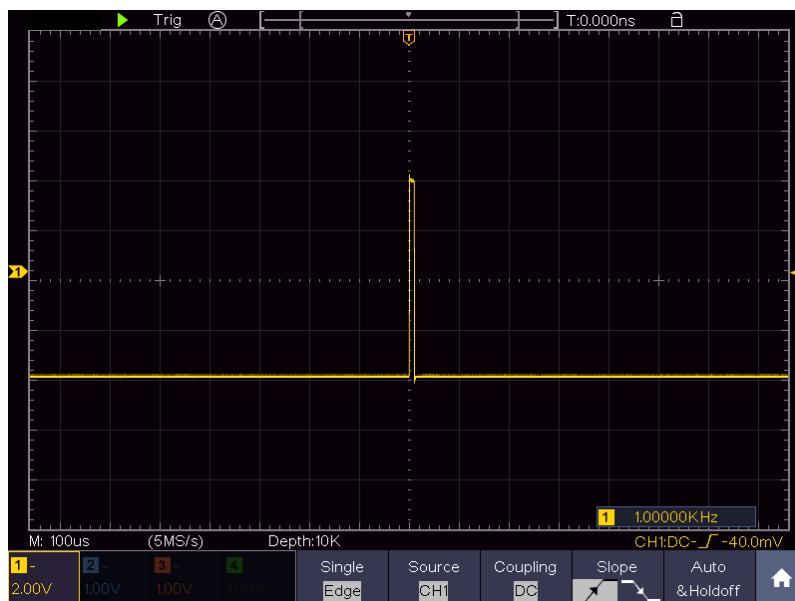

Figure 9-3 Capturing a Single Signal
- (2) Push **CH1** button to select CH1, adjust the **Vertical Scale** and **Horizontal Scale** rotary controls to set up a proper vertical and horizontal ranges for the signal to be observed.
- (3) Push the **Acquire** button to display the Acquire menu.
- (4) Select **Acqu Mode** in the bottom menu. Select **Peak Detect** in the right menu.
- (5) Push the **Trigger Menu** button to display the Trigger menu.
- (6) Select the first menu item in the bottom menu. Select **Single** in the right menu.
- (7) In the left menu, select **Edge** as the mode.
- (8) Select **Source** in the bottom menu. Select **CH1** in the right menu.
- (9) Select **Coupling** in the bottom menu. Select **DC** in the right menu.
- (10) In the bottom menu, select **Slope** as  (rising).
- (11) Turn the **Trigger Level** rotary control and adjust the trigger level to the roughly 50% of the signal to be measured.
- (12) Check the Trigger State Indicator on the top of the screen, if it is not Ready, push down the **Run/Stop** button and start acquiring, wait for trigger to happen. If a signal reaches to the set trigger level, one sampling will be made and then displayed in the screen. By using this approach, a random pulse can be captured easily. For instance, if we want to find a burst burr of high amplitude, set the trigger level to a slightly higher value of the average signal level, push the **Run/Stop** button and wait a trigger. Once there is a burr occurring, the instrument will trigger automatically and record the waveform during the period around the trigger time. By turning the **Horizontal Position** rotary control in the panel, you can change the horizontal triggering position to obtain the negative delay, making an easy observation of the waveform before the burr occurs (see Figure 9-3).